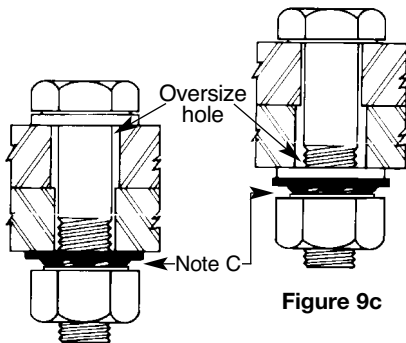

Figure 9b
*The use of flat hardened washers per the provisions of the RCSC Specification varies with the bolt strength, hole size, and yield strength of connected steel and tightening method. Please refer to Table 6.1 of the RCSC Specification for Structural Joints Using High-Strength Bolts for detailed washer and plate washer requirements. (Figures 9b, 9c, 10b and 10c)*